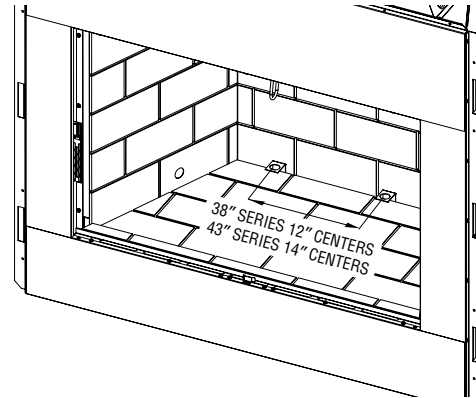
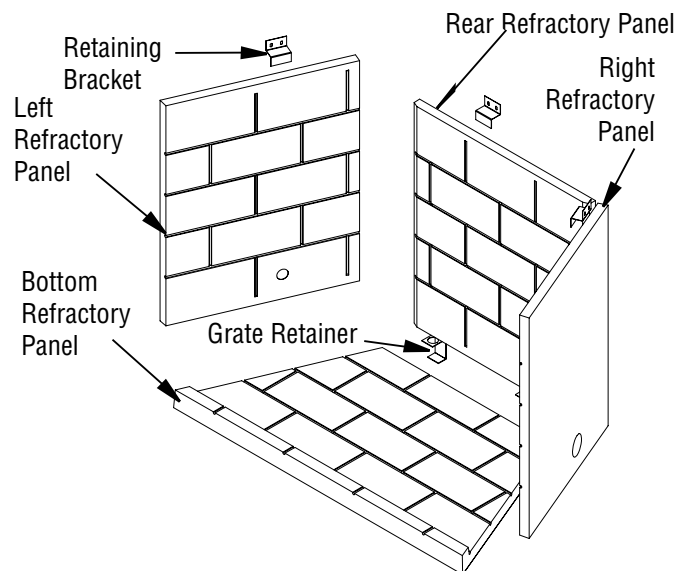

Figure 33 - Installing Grate Retainers
Figure 34 - Installing Refractory Panels
3. Install rear refractory panel. This panel has a top and bottom. To determine which is the top or bottom, match up the pattern on the rear panel with the left and right sides before installing the rear panel. Align the left and right panels with the rear panel so the grout lines line up. Install the retaining bracket and tighten set screws (Figure 33).
4. Install the right and left refractory panels with the gas line knock-outs oriented down toward the firebox bottom. Install the retaining brackets and tighten set screws (Figure 34).
5. Position grate retaining brackets toward the rear of the bottom refractory (see Figure 34). They should be positioned a distance apart as shown in Figure 33.
6. Install refractory hearth panel, insert the front of the panel tilted then slowly let the rear portion go down. Make sure the front of the hearth is flush with the fireplace and the grate retaining brackets are centered (see Figure 33)